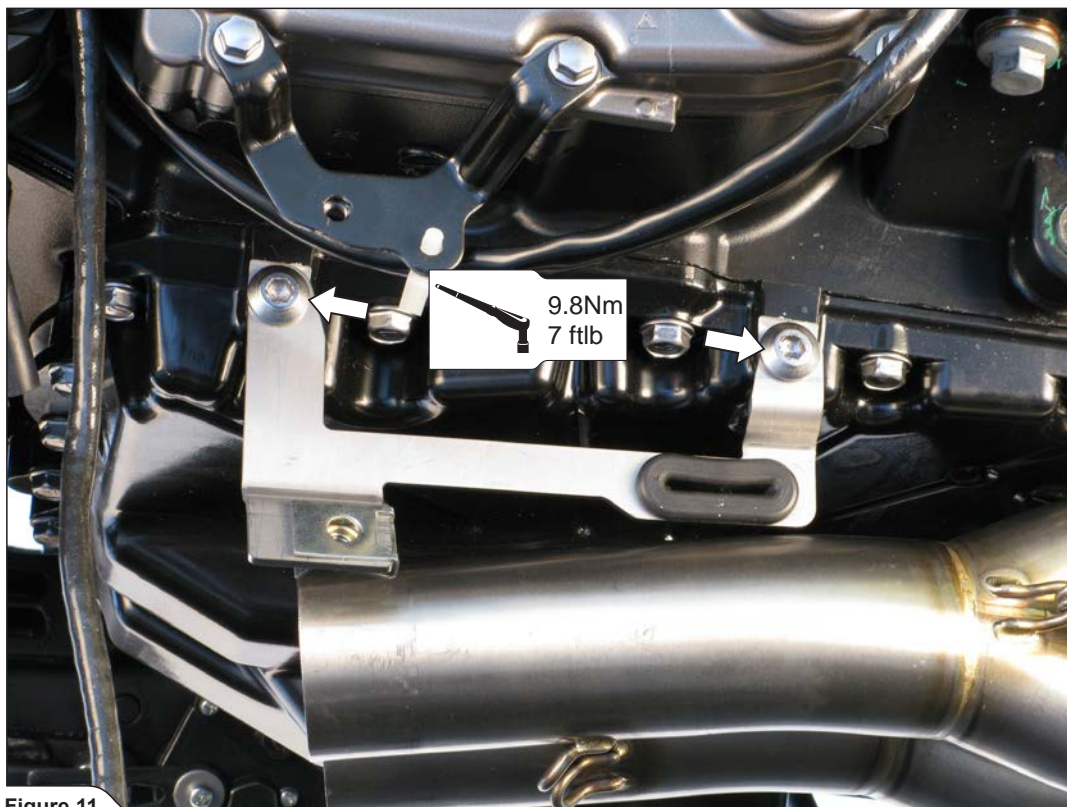

Figure 11
4. For Z1000 model only: install the bracket onto the engine, using stock bolts (Figure 11).